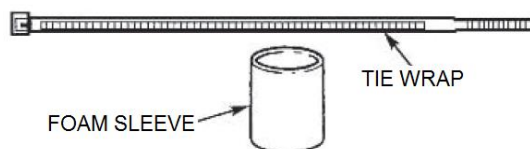

Figure 3
1. Some installation kits will contain a foam sleeve and tie wrap (Fig. 3). Place the sleeve over the pump and using a new pump and new or existing fuel pump isolator. Test fit the pump in the bracket so that there is a minimum of 1/8" gap between the outlet tube of the pump and the bracket tube.